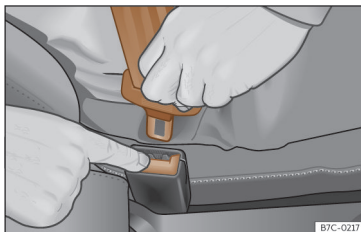

Fig. 21 Release the seat belt’s latch plate.
- Press the red button on the buckle >>> **Fig. 21.** The latch plate is released from the buckle.